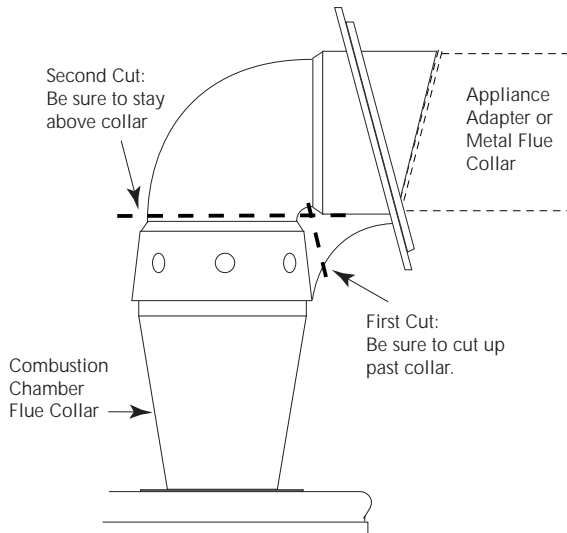

Figure 1
5. Disconnect the vent pipe from the Metal Flue Collar or the Appliance Adapter (see Figure 1).
6. Remove the plastic Vent Body and the flue collar or Appliance Adapter with three cuts from a reciprocating saw (see Figures 1 and 2). Use a 6"x24t bi-metal blade.